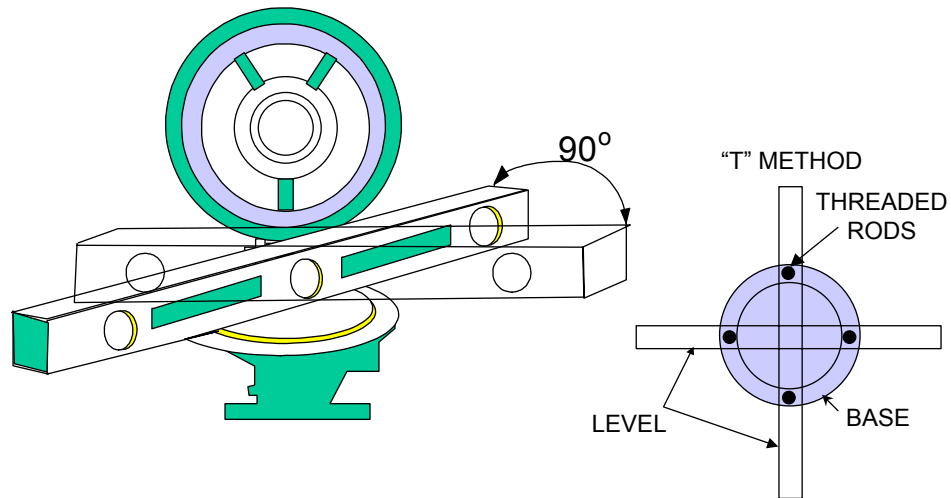

Figure 3-6
- d. With lens open, place a level on the flange of the lantern base. **The bubble level on the lantern shall not be used.** Use the "T" method shown in Figure 3-6 so that adjustment of one leveling bolt won't affect the other adjustment
- f. Move the level ninety (90) degrees from your first position and readjust.